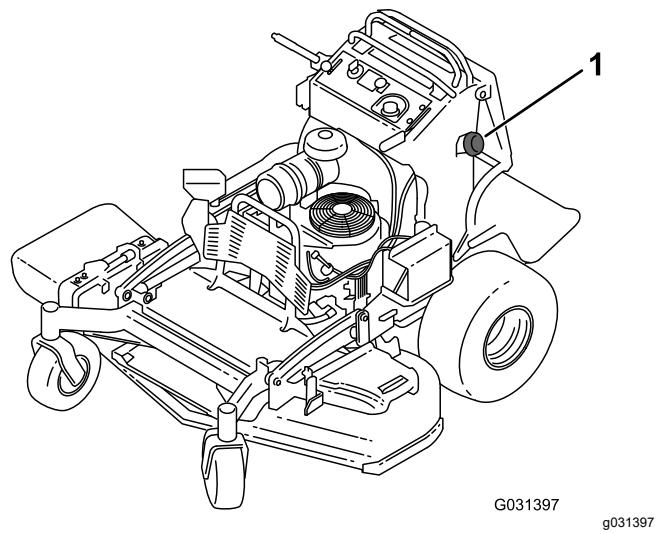

Figure 50
3. Clean around the fuel cap to prevent debris from getting into the fuel tank (Figure 50).